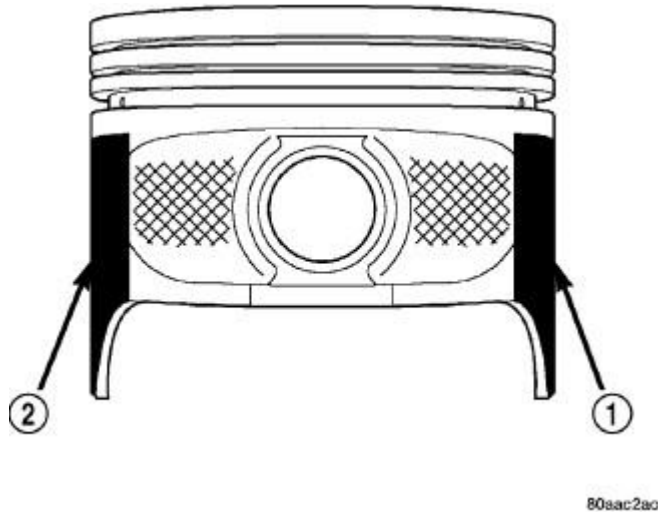

Fig. 137: Moly Coated Piston
- The coated pistons (1, 2) will be serviced with the piston pin and connecting rod pre-assembled. Refer to **Fig. 137**.